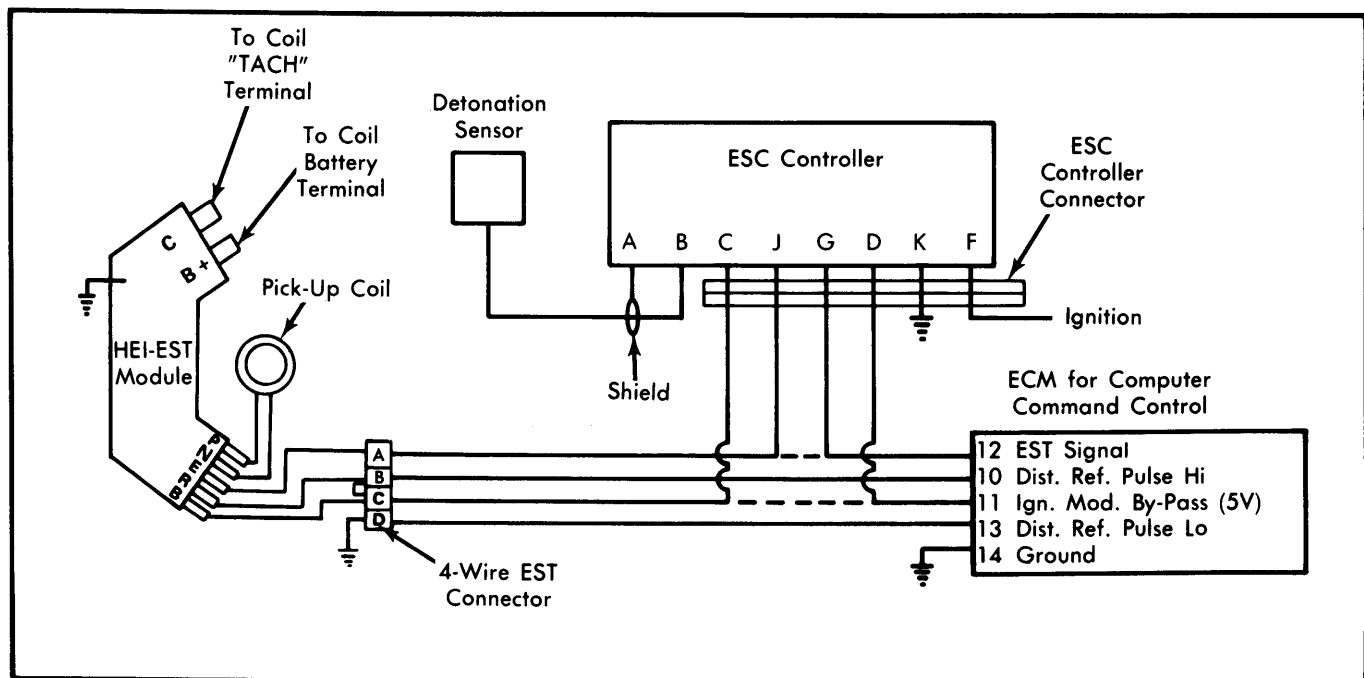

Fig. 3 Schematic of HEI-EST System With Electronic Spark Control (ESC)
NOTE — The Delco-Remy High Energy Ignition System with Electronic Spark Timing (HEI-EST) is used with minor variations on practically all General Motors models. Some Chevrolet 229" VIN K engines are equipped with Electronic Module Retard (EMR). Some EST-equipped engines, such as the 3.8L VIN 3, 4.1L VIN 4, and 4.9L VIN W and T also utilize Electronic Spark Control (ESC) to control detonation. See Fig. 3.
There are 3 basic components of the ESC system: A detonation sensor, an HEI-EST distributor, and an ESC Controller. See Fig. 3. The sensor sends an electrical signal to the controller terminal "B" in event of detonation. Failure of the sensor would permit no retard. The controller modifies the ECM's EST signal, based on the sensor signal, and sends a command signal from terminal "J" to the HEI-EST module's terminal "E" to adjust spark timing. Constant monitoring of detonation occurs. The ESC controller has no memory function, and failure would result in no ignition, no retard or full retard.
1) If complaint is "No Timing Change", proceed to step 4). If complaint is "Failure to Start", turn ignition switch "ON". Attach positive lead of voltmeter to terminal "F" of ESC controller, with negative lead touching terminal "K" of controller. See Fig. 3. If reading is under 10 volts, check for open condition from terminal "K" to ground and from terminal "F" to battery supply. Also check fuses.